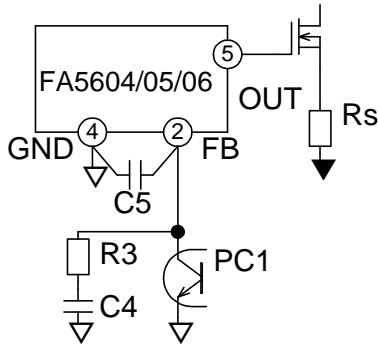

Fig.26
**Fig.26** shows an example of connection in which a feedback signal is input to the FB pin. If this circuit causes power supply instability, connect R3 and C4 as shown in **Fig.26** to decrease the frequency gain. Set R3 between several 10Ω to several kΩ and C4 between several 100pF to 1μF.
In this case, connect a capacitor C5 as shown in **Fig.26** to suppress the noise applied to the FB pin. Set the capacitor of C5 less than 1/10 of capacitance of C4 and connect C5 as near the IC as possible.